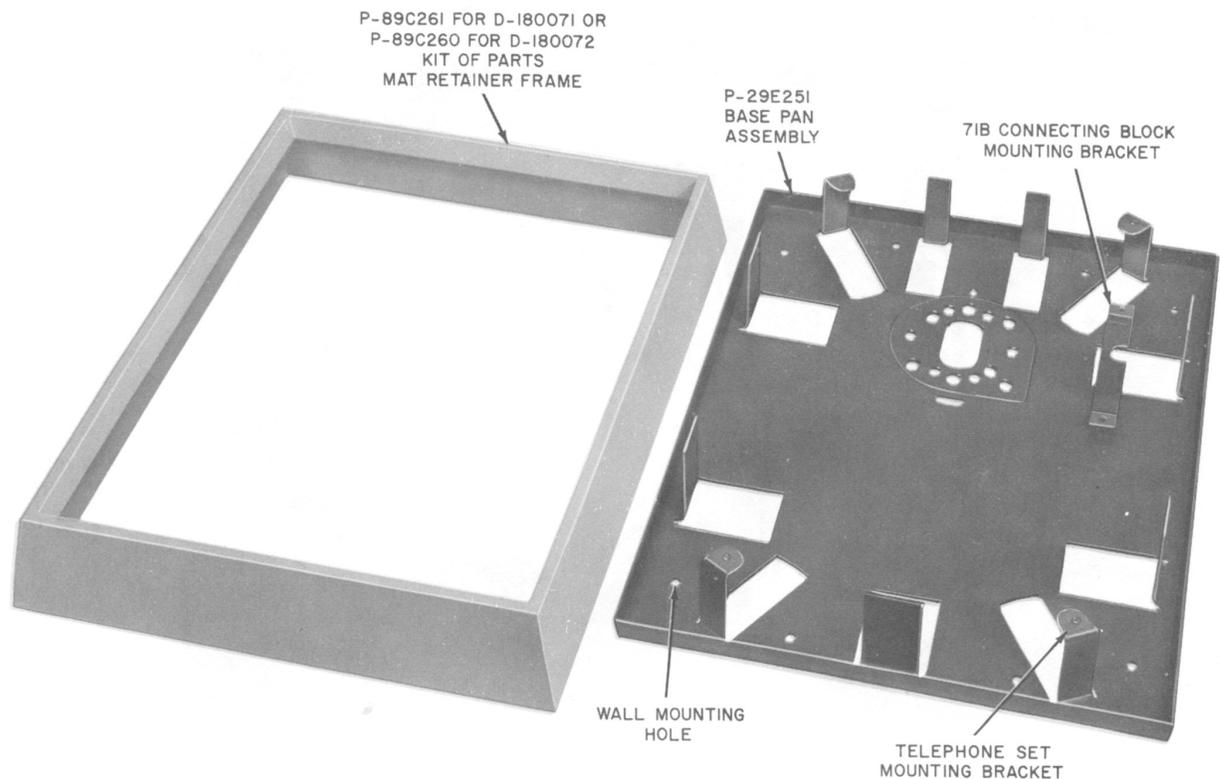

Fig. 1—D-180071 or D-180072 Kit of Parts
(6) Carefully align set panel with mounting brackets on apparatus box and secure with four screws furnished.
(7) Place mat on face of panel. Align plastic retainer frame with projecting tabs of panel and snap frame into place. If necessary bend tabs to assure snug fit.
**D-180071 or D-180072 Kit of Parts. (Fig 1)**